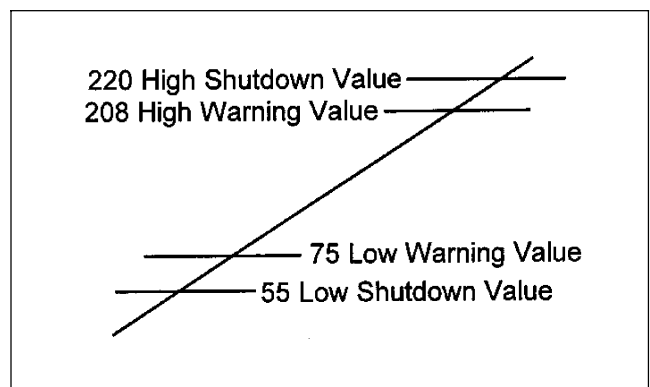

Figure 3-14 Setting Warning and Shutdown Values
4. Enter values to initiate the controller action as a warning or shutdown. The operator determines the application values and enters the values based on the calibrated scale in menu 12. See Figure 3-14 for an example of warning and shutdown values.